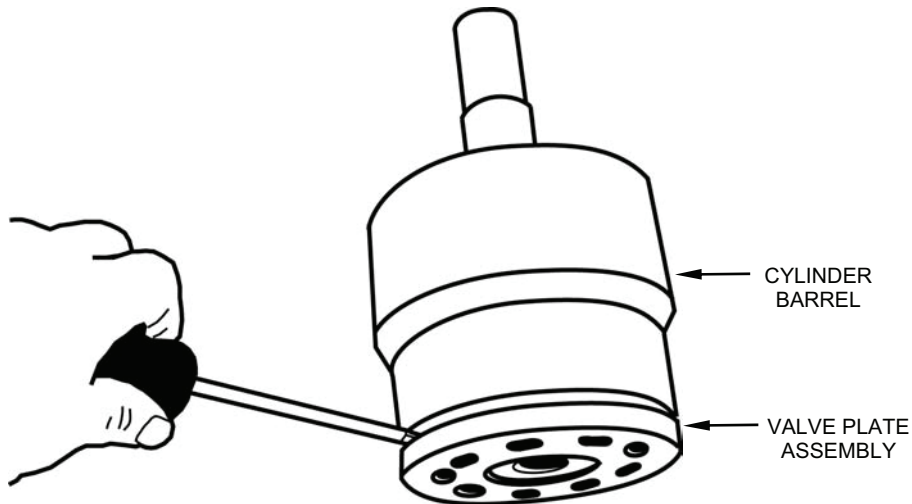

Figure 28. Removing Valve Plate Assembly from Cylinder Barrel.
- r. Using a flat tip screwdriver, carefully pry the valve plate assembly off the cylinder barrel (see Figure 28).